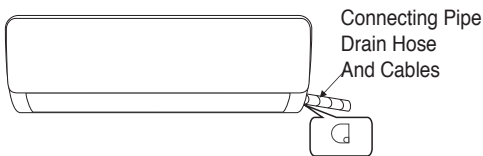
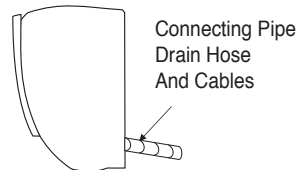

Fig.1
Fig.2
1. Depending on the position of the unit, the piping may be routed sideway from the left or the right (Fig 1), or vertically from the back (Fig 2) (depending on the pipe length of the indoor unit). In the case of sideway routing, cut off the outlet cutting stock of the opposite side.